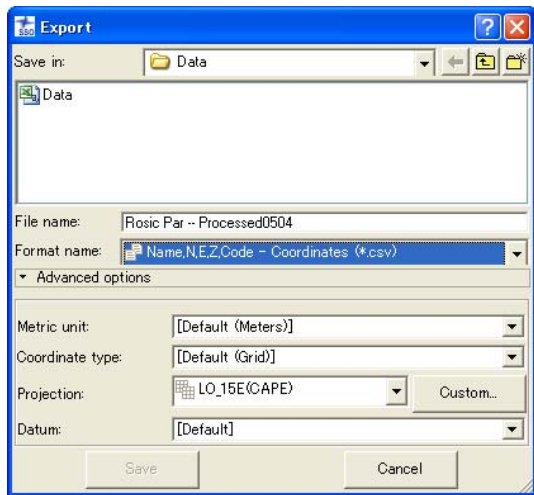

Figure 8-2. Export – Advanced Options Example
4. If desired, select detailed export options in the *Advanced options* panel (Figure 8-2).